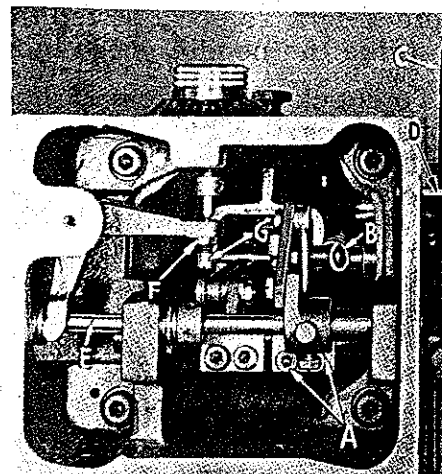
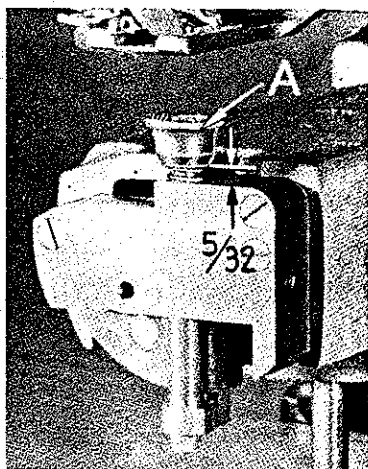
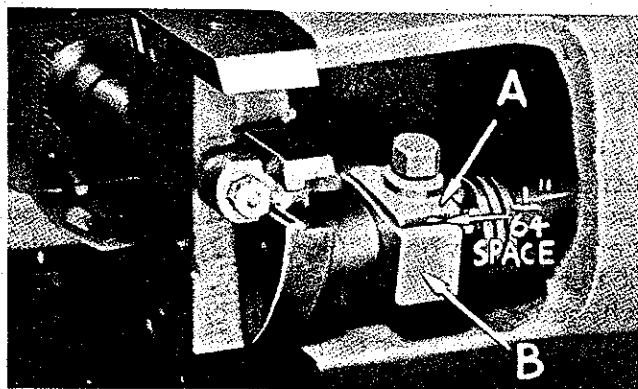
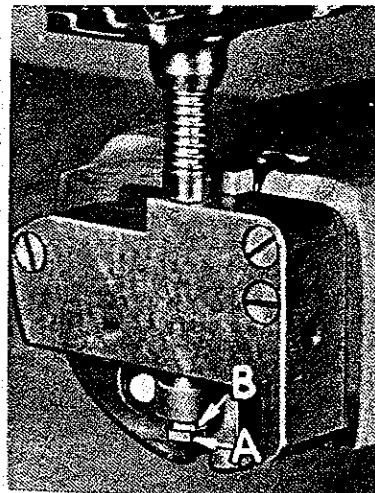

Fig. 8
Fig. 9
Fig. 10
Fig. 11
Tip machine on its side and loosen clamp screws (A, Fig. 8). Disengage spring (B) from crank roll. Depress lever (C) until it rests against its stop pin (D). Turn plunger
shaft (E) clockwise until bottom of work clamp (A, Fig. 9) is  $\frac{5}{32}$  inch above plunger bearing block. Tighten clamp screws (A, Fig. 8) and re-engage spring (B).
With machine in stop position, tilt machine on side, pull penetration dial out, and turn clockwise as far as it will go. Loosen locknut (F, Fig. 8), and adjust screw (G) until space between plunger block (A, Fig. 10) and crank (B) is  $\frac{1}{64}$  inch. Lock nut (F, Fig. 8) securely. Tip machine back, engage clutch, and turn pulley in operating direction until point of looper is over center of needle. Loosen locknut (A, Fig. 11) and adjust plunger up or down by means of nut (B) until point of looper just contacts needle. Lock nut (A) securely.